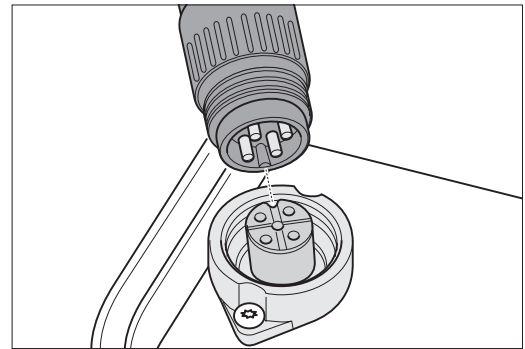

Fig. 21 Make sure that the nose of the plug is inserted into the groove of the socket.
- 4 Insert the plug of the sensor into the on/off switch and lock this fasten connection by turning the ring nut. Make sure the nose of the plug is inserted in the groove of the socket (Fig. 21).